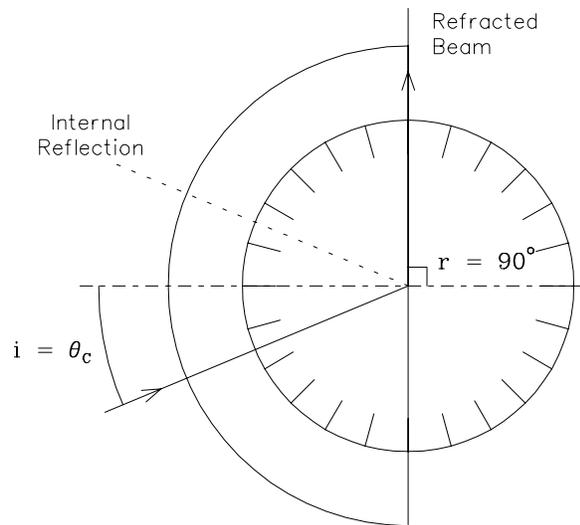

Figure 4.3: Critical angle setup for Part 3
- Observe the refracted beam and adjust the angle i of the incident beam to set the angle of refraction r at 90° so that the refracted beam disappears as in Figure 4.3.